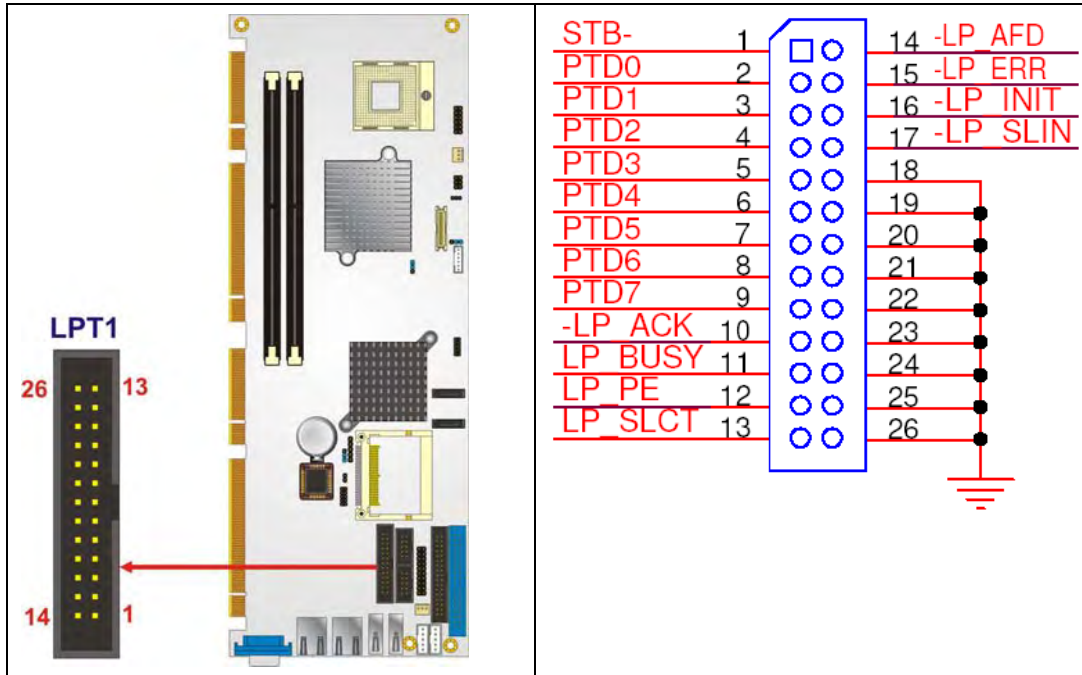

Figure 4-14: Parallel Port Connector Location
- CN Location:** See Figure 4-14